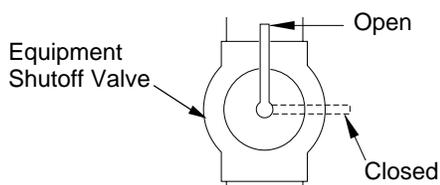

Figure 20 - Equipment Shutoff Valve
1. Close equipment shutoff valve (see Figure 20, page 13).
1. Open equipment shutoff valve (see Figure 20).